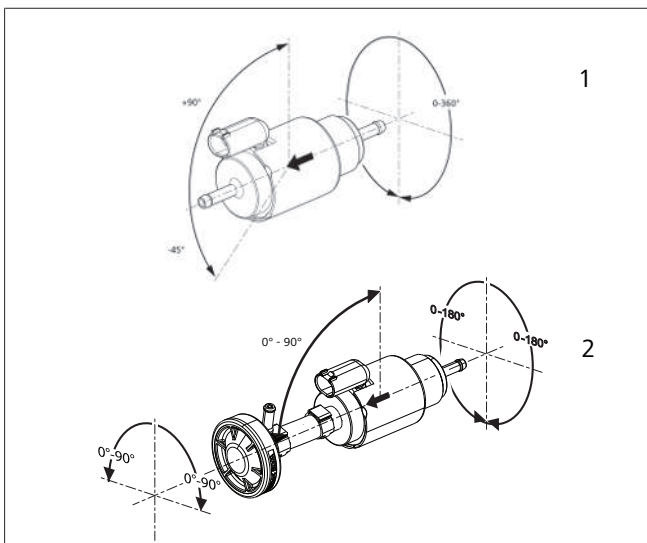

Fig. 12 Permissible installation position of fuel pump
- ▶ Ensure the correct installation position (see Fig. 12).